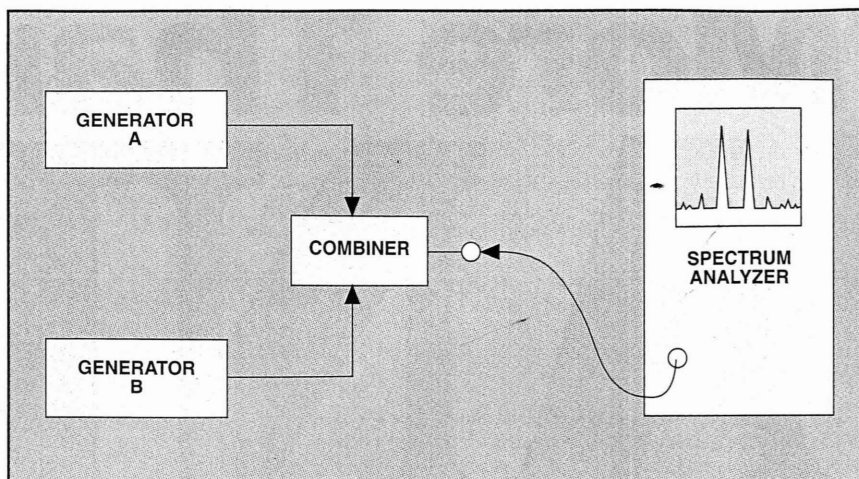

Figure 2. A simplified test setup for determining a spectrum analyzer's dynamic range.
Figure 2 above right shows a simplified setup for measuring IMD produced in the spectrum analyzer. Essentially a sophisticated superheterodyne receiver, a spectrum analyzer can have the same problems as any other superheterodyne receiver. In this test setup, generators A and B generate two continuous wave (CW) tones at RF frequencies. A special combiner (not a simple "T" connector) combines their output and connects it to the spectrum analyzer input. When the input levels to the spectrum analyzer begin to overdrive or overload the analyzer, IMD occurs. Third-
Highly accurate tests require a more complex test setup than depicted in Figure 2. For example, a low-pass filter should be inserted between each generator and the combiner to suppress harmonics, and a high degree of isolation must be provided to prevent interaction between the two generators. The combiner provides some
Of course, proper padding must be used to maintain a good impedance match throughout. Just remember, the setup shown in Figure 2 is a simplified version of the elaborate setup used in laboratories.